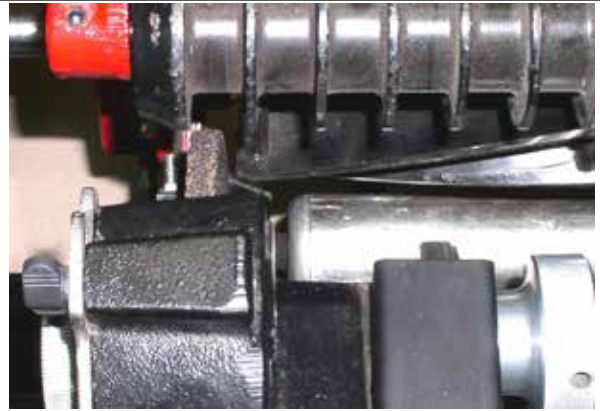
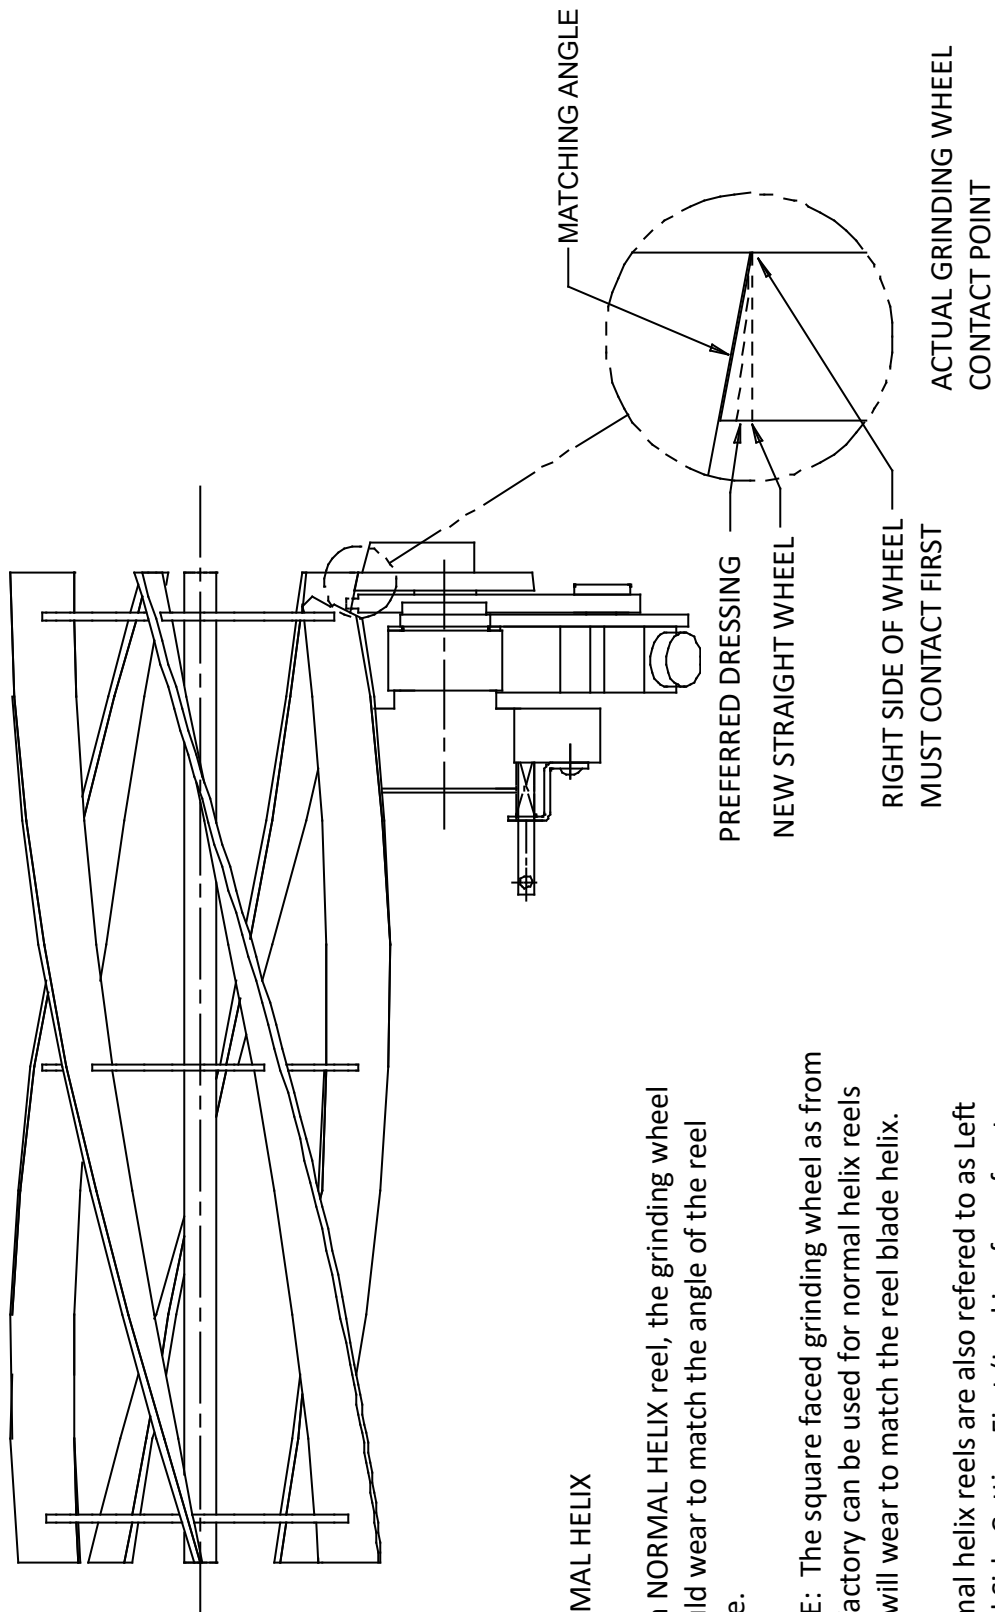

FIG. 74
FIG. 76
L. Move the wheel all the way to the left proximity switch watching for proper clearance between the grinding wheel and the blade. When the grinding head reaches the left proximity switch, the index finger should spring forward. See FIG. 75. The grinding wheel should come off the reel blade, but the blade should remain on the fixed relief finger. See FIG. 74. If not, adjust the left side proximity switch position until correct. Check for proper clearance between the index finger and the front side of the blade on the return trip to the home (right hand proximity switch) position. See FIG. 76. Also verify clearance between the index finger and the reel blade support spiders.